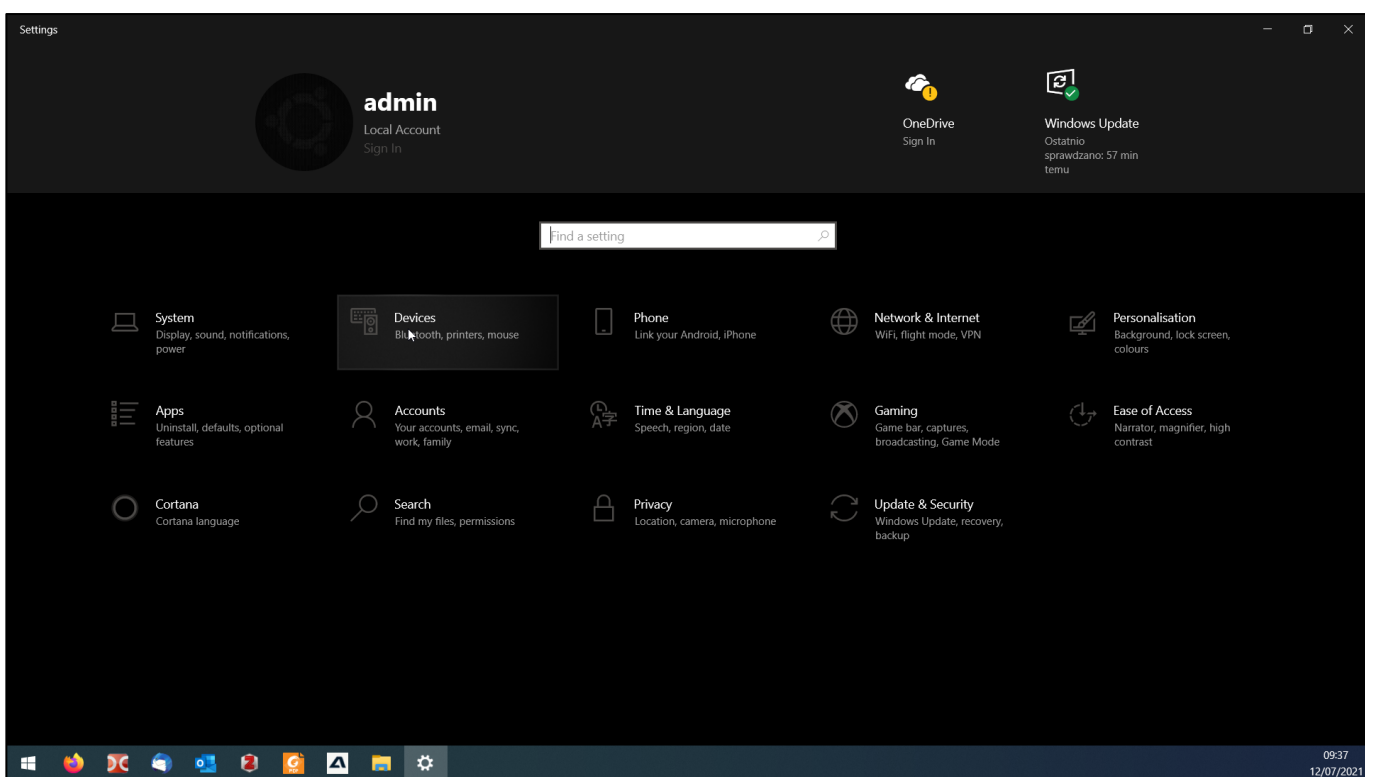

Fig. 2 Selecting device settings in Windows 10.
2. In the system settings window, select the *"Devices"* group (Fig. 2).